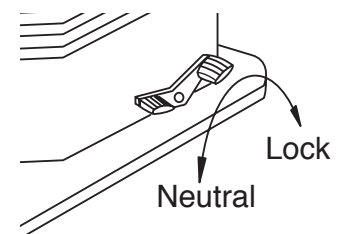

Fig. 5-5 Rotation Lock Pedal
(2) Auto-return Control (0)
3) Chair Rotation (See Fig.5-5)